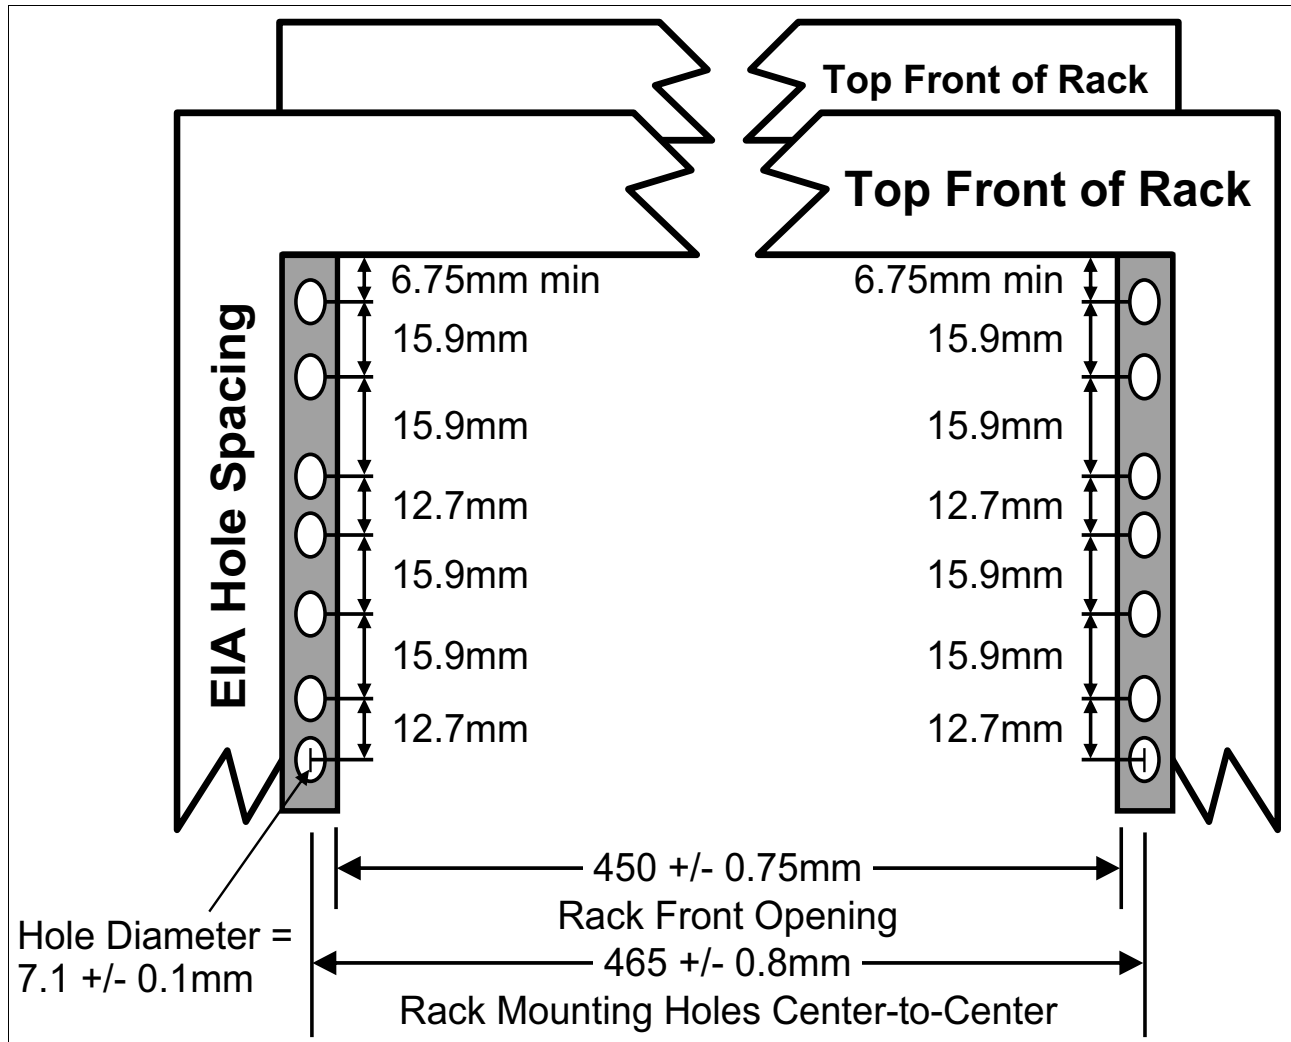

Figure A-2 Top view of rack specification dimensions (not specific to IBM)
- ▶ The front rack opening must be 451 mm wide ± 0.75 mm (17.75 in. ± 0.03 in.), and the rail-mounting holes must be 465 mm ± 0.8 mm (18.3 in. ± 0.03 in.) apart on-center (horizontal width between the vertical columns of holes on the two front-mounting flanges and on the two rear-mounting flanges). Figure A-2 is a top view that shows the specification dimensions.